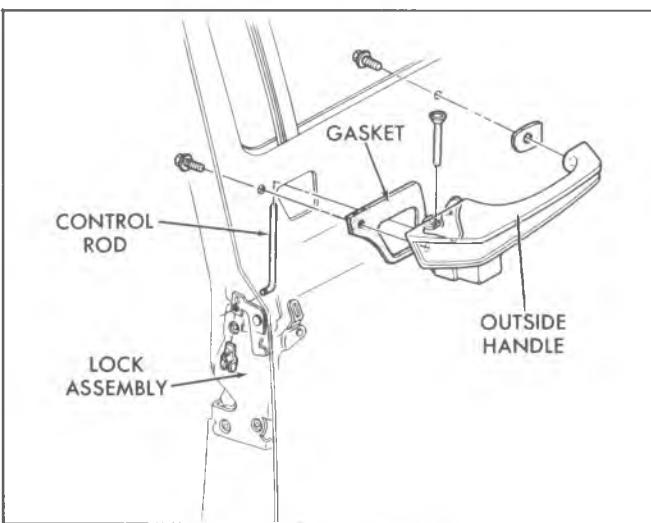

Fig. 43—Outside Handle
**Outside Handle—Fig. 43****Replacement**
2. Disengage outside handle control rod from lock assembly by removing clip, as shown in figure 43.